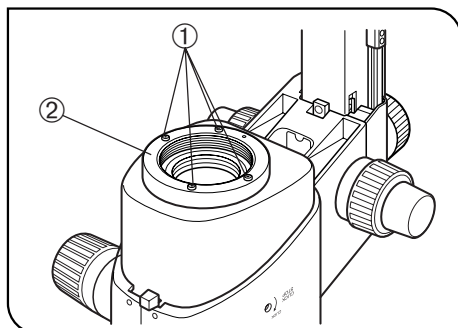

Fig. 20
(Fig. 20)
3. Remove the objective from the zoom microscope body and then remove the objective mount ② by loosening the four clamping screws ① using the provided Allen wrench (for M3 screws). (Fig. 20)